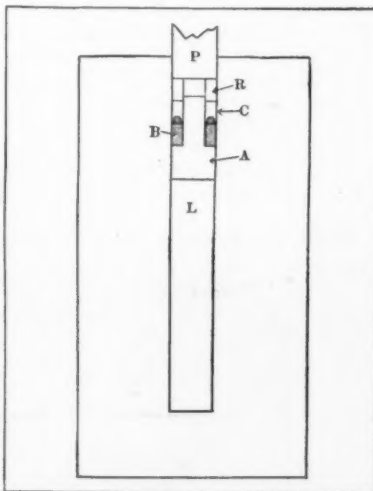

FIGURE 1
The fundamental principle of the packing is shown in Figure 1, where is represented the method by which a piston (P) forced into a cylindrical hole in a steel block, compressing the liquid (L) with which the hole is filled. (R) is a ring of hardened steel, (C) is a cup-shaped soft-steel washer, (B) a packing of soft rubber, and (A) a mushroom-shaped piece of heat-treated steel. The essential feature is that the stem of the mushroom does not reach entirely through the ring (R), but its end is unsupported. This means that the entire push of the piston (P), which, of course, is equal to the pressure in the liquid except for friction, is transmitted to the mushroom through the packing (B). Now the area of this packing is less, by the area of the stem, than the total area of the piston, so that the pressure in pounds per square inch in the packing is greater by a fixed fraction than the pressure exerted by the piston and in the liquid. Hence the liquid can never leak out past the packing, but paradoxically, since the pressure in the packing is greater than that in the liquid, it is the packing that tends to leak in past the liquid. Any such inward leak of the packing can easily be prevented if the plug is a close fit for the cylinder.